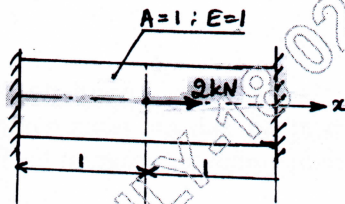

Fig Q2(b)
b. For the bar shown in Fig Q2(b), determine the displacement at the point of loading and the corresponding stresses using Rayleigh Ritz method. Use second degree polynomial approximation for the displacement. (10 Marks)